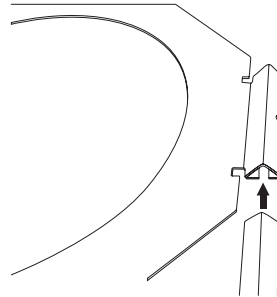

Figure 1
1. Slide the "V" support rails into the rail glides on each side of the bracket. Figure 1.